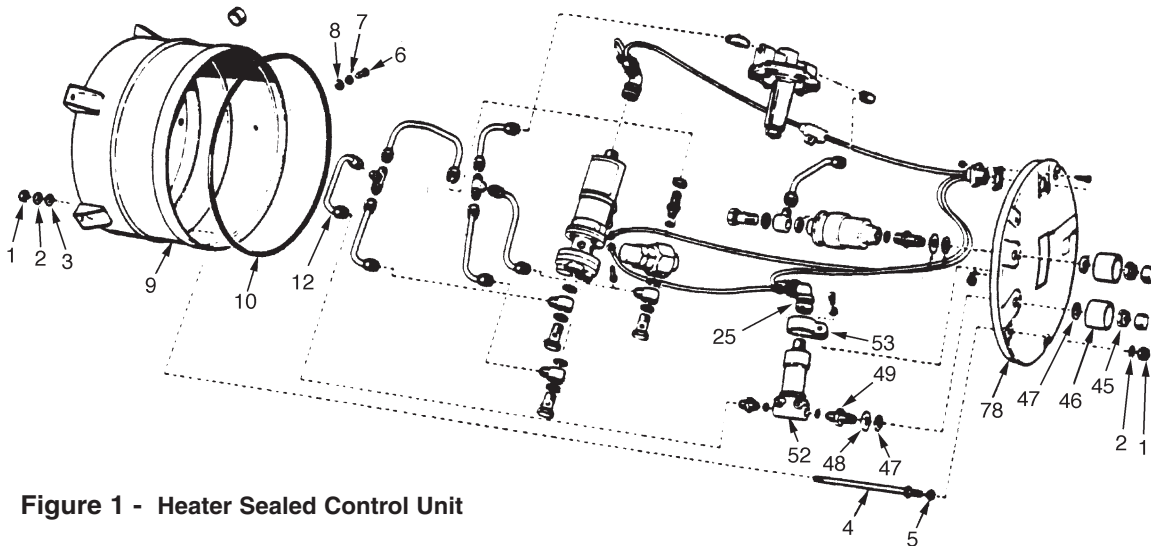

Figure 1 - Heater Sealed Control Unit
If overhauling the 65C30 Sealed Control Unit, HET Janitrol Overhaul Manual 95C35 must be used for all procedures including disassembly, assembly, and testing. If a repair to replace the Solenoid Valve Assembly is being done, use only the instructions in this SIL to effect the repair. Refer to Figure 1 as required.
- (10) Using the position noted in step 3.B (8), install the flat washer (48) and new gasket P/N AN900-7 (47) on the union. Insert the union with the arrow pointing towards the base, in the fuel outlet port. Install the new gasket AN900-7 (47), shroud (46), and nut (45) snug but do not tighten. (Refer to Figures 1, 4, & 5.)